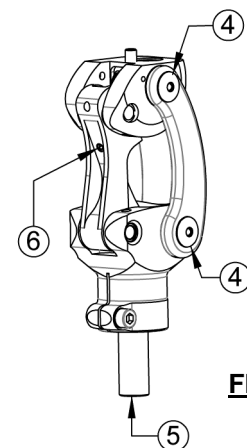

FIG 2
D) EXTENSION ASSIST ADJUSTMENT (Fig.2)
E) EXTENSION BEARING ADJUSTMENT (Fig.2)
F) JOINT FRICTION ADJUSTMENT (Fig.2 and 2-1)